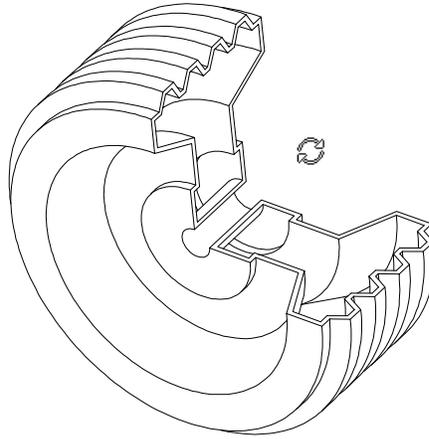

Figure 4-47 Rotating the model with hidden lines suppressed
- e. Rotate the view using the **Rotate View** tool to display the model from different directions, refer to Figure 4-47.
2. Press the left mouse button and drag the cursor on the screen to rotate the view. Figure 4-47 shows the model being rotated with hidden lines removed.